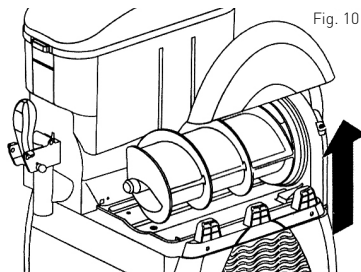

Fig. 10
- Lift the upper part of the protector and remove it for cleaning and maintenance operation. Once finished, fit the part in the machine again. See Fig. 10.